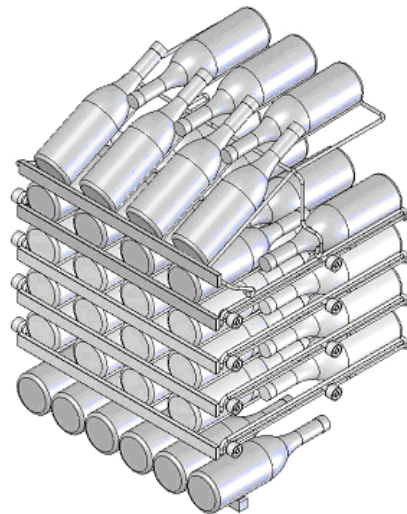

Figure 5
Position white wines on the middle or lower racks and red wines on the upper racks (see Figure 5). Two (2) magnums can be placed in the bottle cradle as long as they are positioned horizontally.